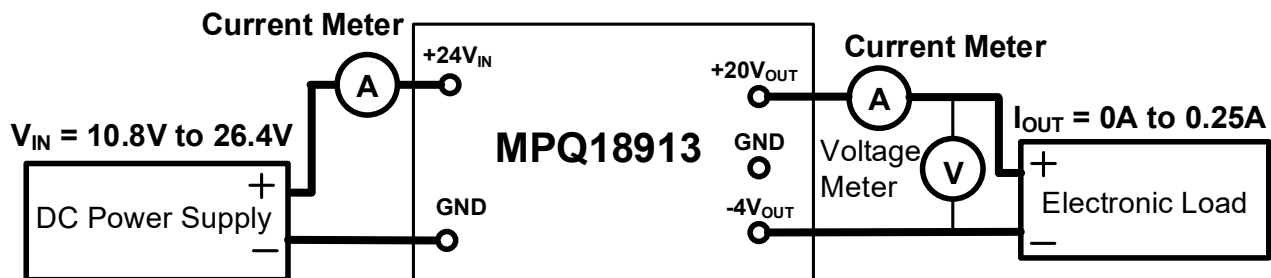

Figure 1: Measurement Equipment Set-Up
1. Preset the power supply ( $V_{IN}$ ) between 10.8V and 26.4V, then turn off the power supply (see Figure 1).